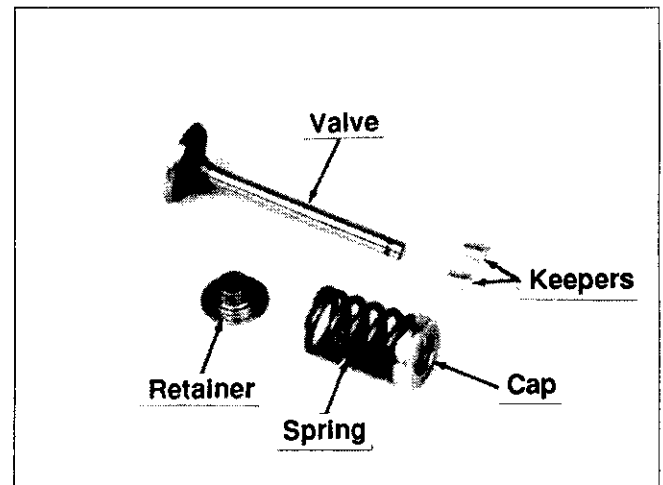

Figure 9-50. Valve Train Components.
3. Once valve spring is compressed, remove the following items (see Figures 9-50 and 9-51):